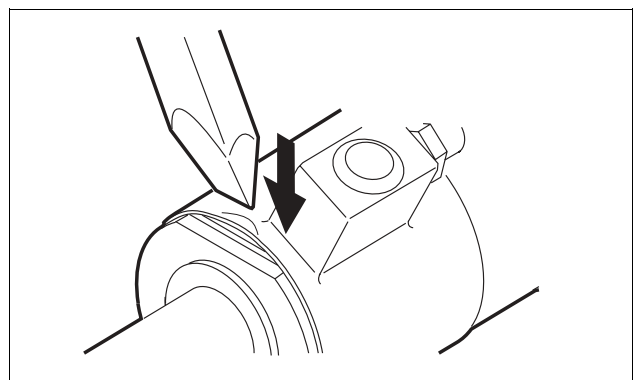

Fig. 34 Lock the gland
- 31. Lock the gland. *See Fig. 34.*